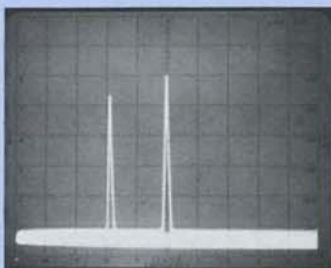

Figure 28.
4. Set SCAN WIDTH PER DIVISION to 1 MHz/DIV, keeping signal centered. Turn SIGNAL IDENTIFIER on. Note that another signal appears on the CRT which is slightly less in amplitude than the signal of interest. Advance the FREQUENCY BAND SCALE by pushing up on the lever until the smaller signal is two divisions to the left of the original signal. (Figure 28.) This condition (as described in the engraving on the front panel near the signal identifier switch) indicates that the correct frequency band scale has been chosen. The frequency of the signal can be read under the hairline as 4.50 GHz.